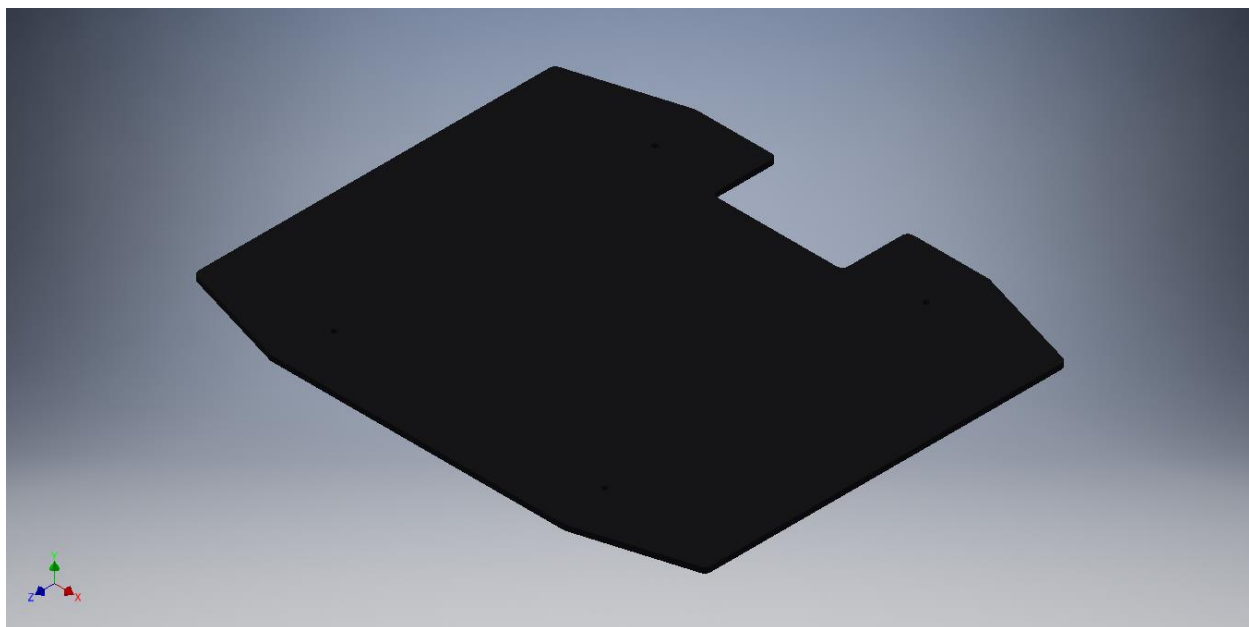

Figure 10 Cover Plate
9. A completed tire is shown in Figure 10.